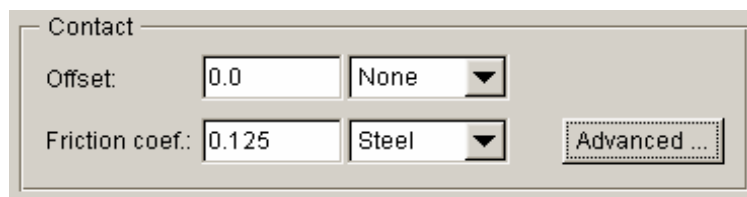

Figure 5.57 Contact setting
27. The numerical contact offset is also disabled. See Figure 5.57.